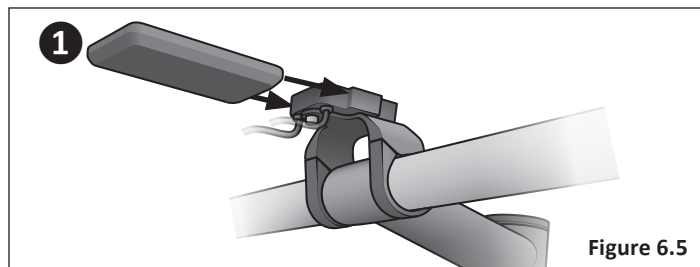

Figure 6.5
- 1 Slide the display into the display bracket until it snaps into place. **Figure 6.5**